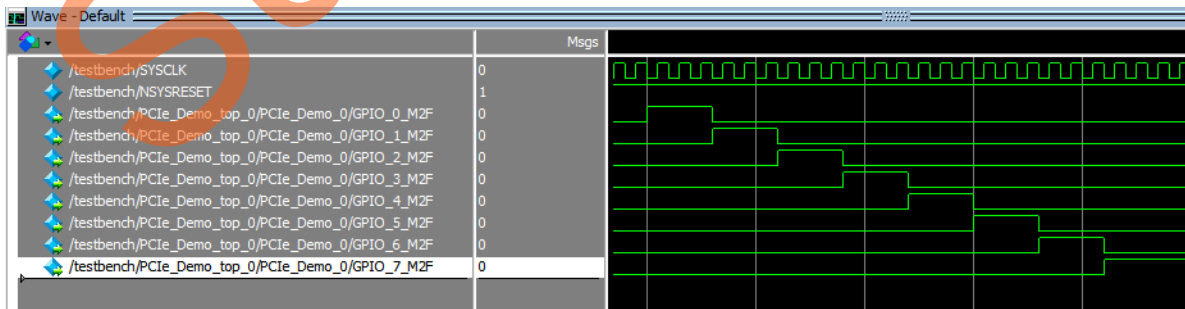

Figure 49 • Simulation Result with MSS GPIO Signals
7. Figure 49 shows the waveform window with MSS GPIO output signals.